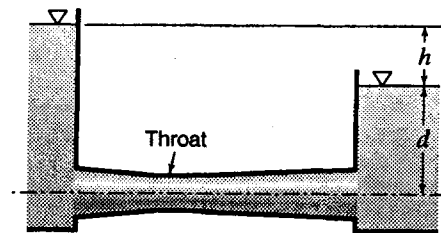

Figure P5.26
5.26 In Fig. P5.26, assume water is flowing and neglect all head losses except at discharge. Find the flow rate if  $h = 8$  ft. Assuming that  $d = 10$  ft, the throat diameter is two-thirds the pipe diameter where it joins the downstream tank, and the atmospheric pressure is equal to the standard atmospheric pressure at 10,000 ft elevation, calculate the gage pressure and the absolute pressure in the constriction. The throat diameter is 14 in.